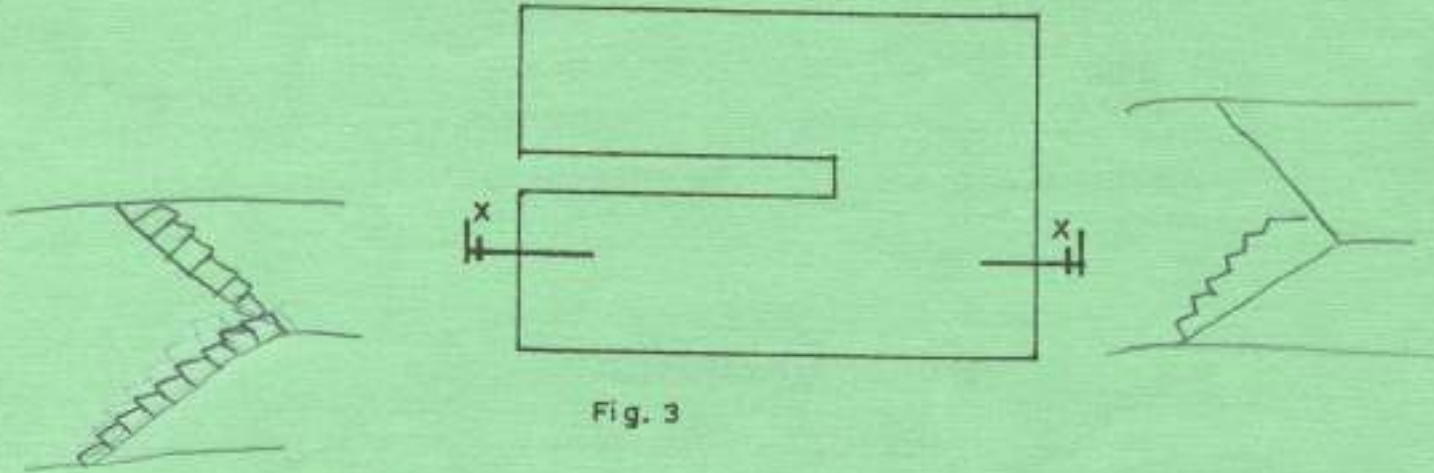

Fig. 3
- (b) **Figure 3** shows the plan of a stair. Using the data in **Table 1** and to a scale of 1:25 draw section X - X. (14 marks)